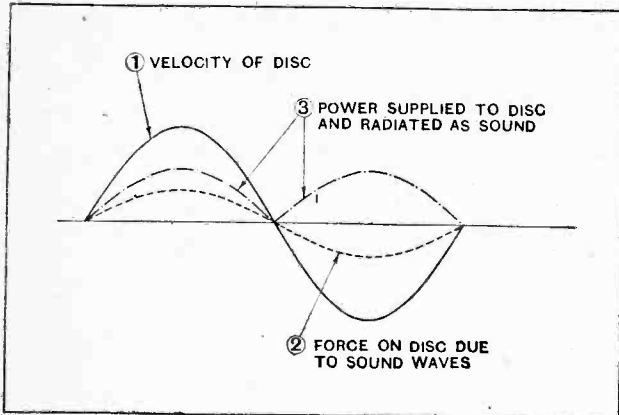
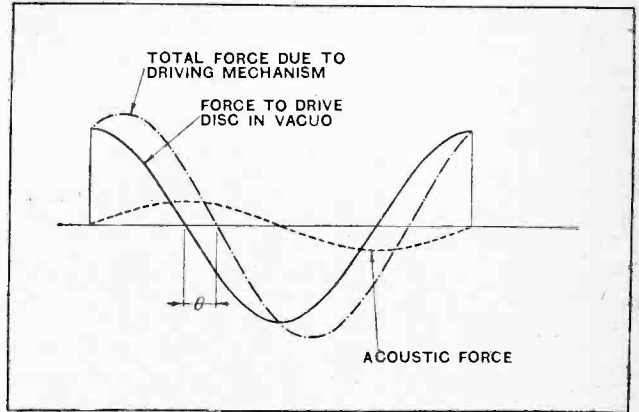

Fig. 5.—Curve of power radiated as sound.
Fig. 6.—Total force acting on the disc in vibration.
effective resistance of the winding. Moreover, a large energy loss is expended in the winding to make the disc vibrate and to do no external work at all. When the disc vibrates in air at normal pressure the force upon it due to the air resistance is so small as to be negligible in comparison with that required to make the disc vibrate in vacuo. The reason for this is to be found in the low density of the air compared with that of the vibrating parts. We now begin to see more clearly why a loud-speaker is inefficient. When the disc vibrates in air an additional force is required from the driving mechanism to overcome the resistance due to the work done in generating sound waves. This force is proportional to the velocity of the disc and is in phase with it. Curve (2) of Fig. 5 shows the velocity of the disc and the corresponding acoustic force on the disc. As we have seen above, power
is the product of force and velocity, and a third curve showing this has been drawn. This is the power radiated as sound waves. It should be noted that the power during both half-cycles is *positive*. Although the force and velocity are both negative in the second half-cycle the product is of course positive, *i.e.*, power is radiated during each half-cycle. The total force acting on the disc is of course the sum of curve (2), Fig. 5, and the full line curve of Fig. 4. This is shown in Fig. 6, from which it will be seen that the force curve is still a sine wave, but it is now displaced to the right by an amount depending upon the pressure or force on the disc due to sound waves. In practice the displacement is comparatively small.